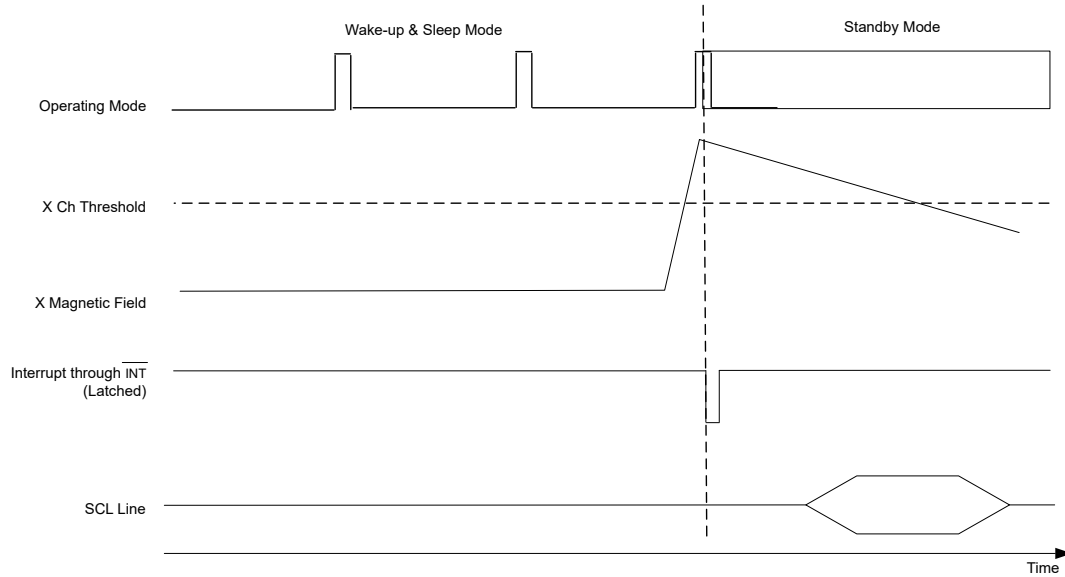

Figure 8-11. Wake-Up and Sleep Mode Operation With Back-Up Battery
- If a threshold detection even occurs, the INT signal asserts low to wake-up the microcontroller. When $\overline{\text{INT}}$ goes low, perform the 16-bit T, X, Y, Z register read with one single read command (see Figure 8-11).